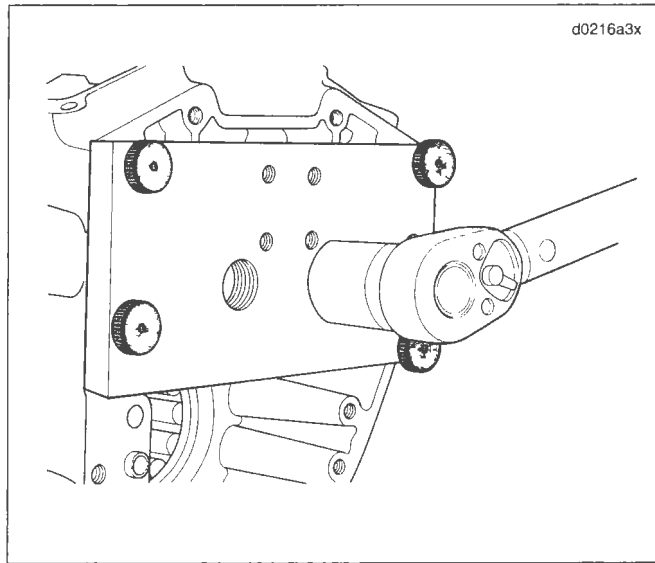

Figure 3-136. 1 Inch (25.4 mm) Bearing Installation
8. See Figure 3-136. Using torque wrench, turn hex at end of installer forcing screw in a clockwise direction until bearing is at a depth of 3.100 in. (78.7 Nm) from cam cover gasket surface.